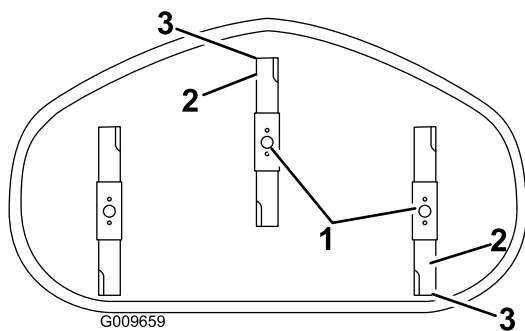

Figure 57
4. Carefully rotate the blades so they are facing front to rear (Figure 57).
5. Measure from the tip of the front blade to the flat surface and the tip of the rear blade to the flat surface (Figure 57). If the front blade tip is not 1/16-5/16 inch (1.6-7.9 mm) lower than the rear blade tip, adjust the front locknut.
is 1/16-5/16 inch (1.6-7.9 mm) lower than the rear blade tip (Figure 57).